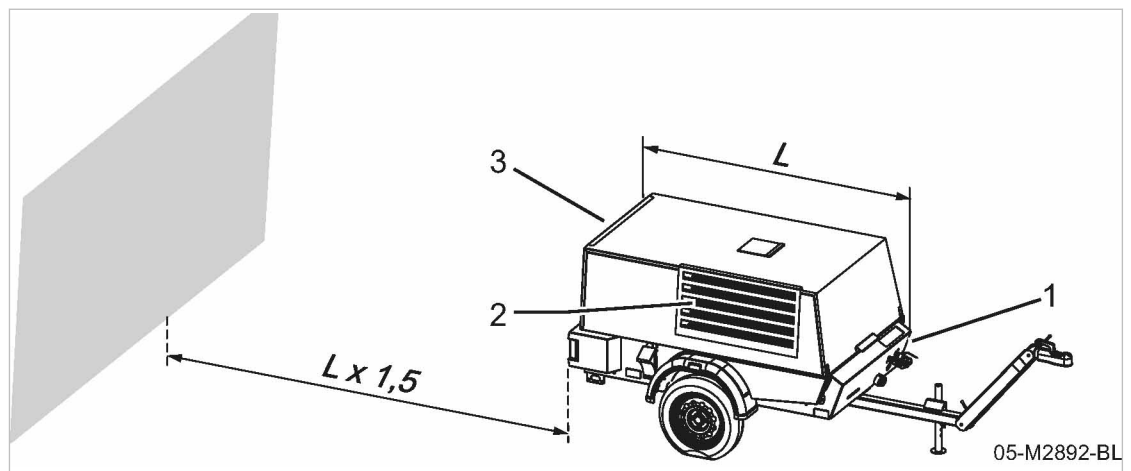

Fig. 10 Minimum distance to walls
2. Observe minimum distance for cooling air outlet from the machine to walls, see figure 10.